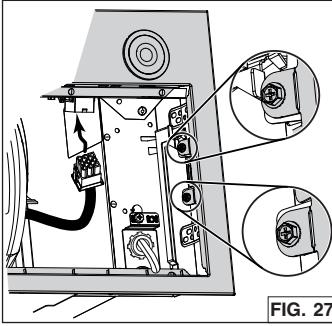

FIG. 27
6. Reinstall and secure the faceplate to the unit using its 4 retaining screws (two per side, circled in FIG. 27). Plug the blower cable to its connector on faceplate.